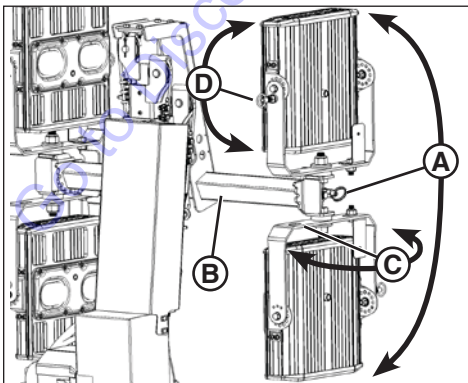

Figure 9
2. Pull the light arm locking pin (**A**, Figure 9) to rotate the light arm on each side of the light bar (**B**). Make sure that the locking pin engages one of the holes after adjusting.
3. Grasp and swivel the fixture yoke (**C**, Figure 9) to adjust each fixture side to side.
4. Pull the light fixture locking pin (**D**, Figure 9) to adjust each fixture up or down. Make sure that the locking pin engages one of the holes after adjusting.